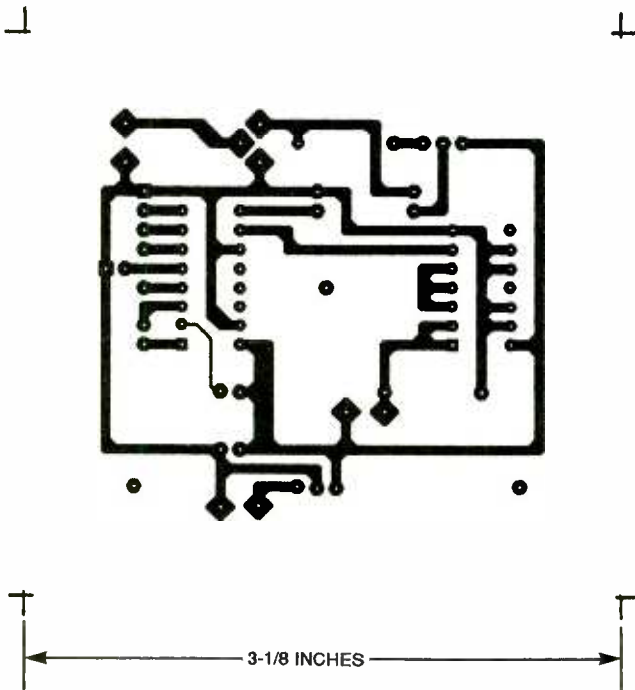

Fig. 3. Layout of the Tester is not critical, but if you'd like to build the project on a PC board, use this template to etch your own.
Now let's look at the constant-voltage method. There, the resistance being measured is proportional to the current flowing through it. To measure high resistances, a sensitive current meter and/or a high test voltage is needed. The Megohm Tester uses a modified constant-voltage method (shown in Fig. 3), which lets you determine current by measuring the voltage (V_x) across a resistor (R) in series with another resistance being measured (R_x). Resistor R , shown as a value of 1 megohm, is actually the parallel combination of the DMM's input resistance and a calibration resistor in the Tester.